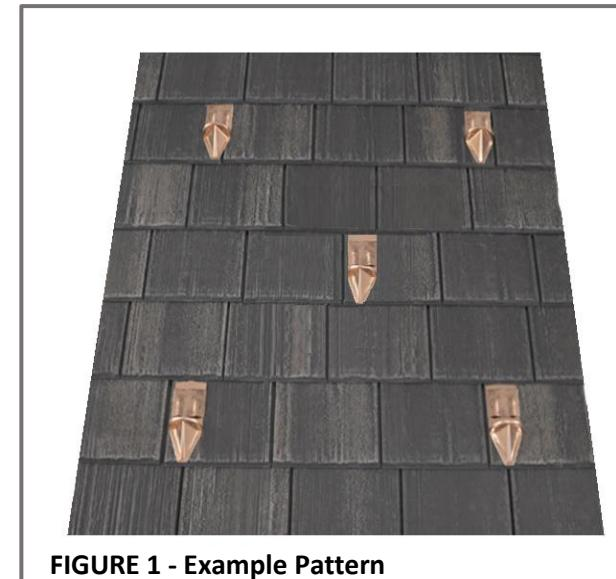

FIGURE 1 - Example Pattern
- Fasten snow guards in the patterns specified by the manufacturer. For example, model PD30R snow guards by Alpine Snow Guards® are shown installed in a regular pattern over F-WAVE® REVIA® XTM Hand Split Shake. See **Figure 1**.